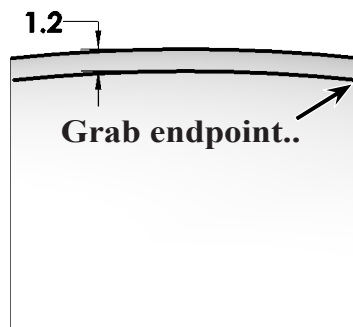
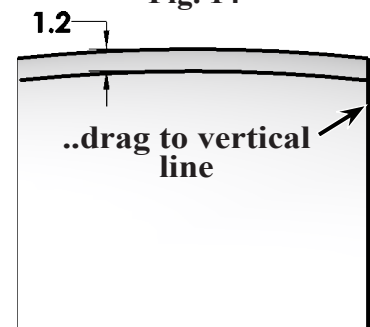

Fig. 15
Fig. 16
Step 7. Grab the **right endpoint of offset arc** and drag to converted vertical edge line to start closing a contour, **Fig. 15** and **Fig. 16**.
Step 8. Click **Line**  (L) on the Sketch toolbar.